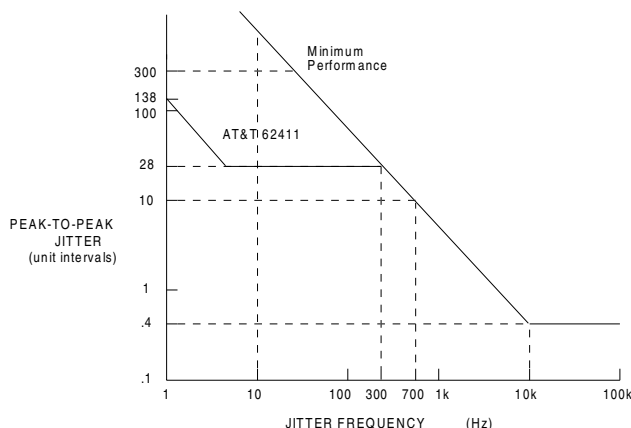

Figure 7. Minimum Input Jitter Tolerance of Receiver
- Jitter tolerance for 0 dB input signal level. Jitter tolerance increases at lower frequencies. See Figure 7.
- See Receiver Jitter Tolerance Plot, Figure 7.
A noise and cross-talk filter removes signal components that are coupled onto the line from other cables. The clock and data recovery circuit exceeds the jitter tolerance specifications of Publication 43802, Publication 43801, AT&T 62411, and TR-TSY-000170. Jitter tolerance is shown in Figure 7. The RTIP and RRING inputs are biased to an intermediate DC level and treat the input signal differentially.
The receiver jitter tolerance is shown in Figure 7. The CS61310 jitter tolerance exceeds AT&T 62411 for synchronizers.